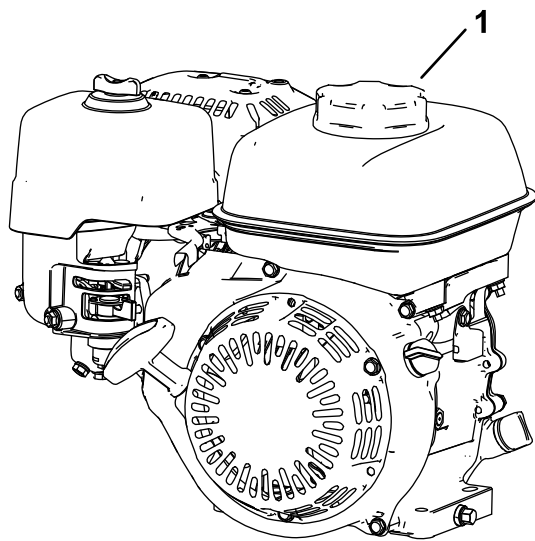

Figure 12
3. Clean around the fuel-tank cap and remove it (Figure 12).